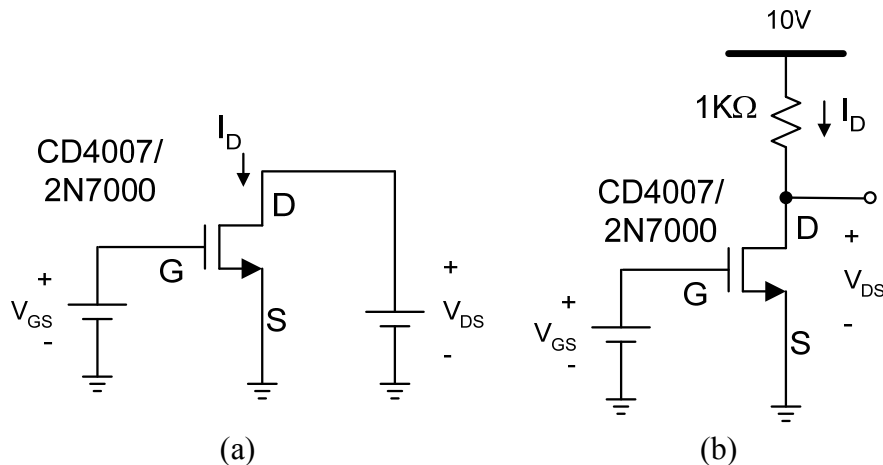
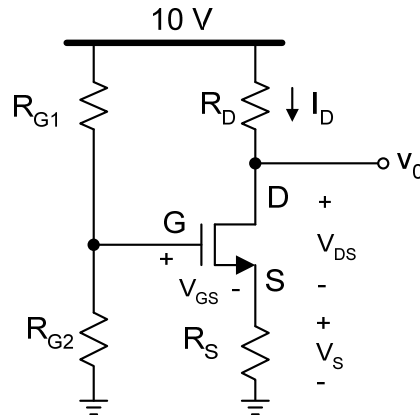

Fig. 2. (a) PSpice simulations setup (b) Schematic used for measuring the n-channel MOS transistor characteristics and small signal parameters.
Fig. 3. MOSFET based amplifier: circuit 2
A simple biasing scheme for the n-channel MOSFET is shown in Fig. 2; use  $V_{DD} = 10V$ . Find the important parameters for this transistor; e.g.  $\beta$ ,  $\lambda$  and  $V_T$ . A simple characterization gives you this information. For Spice simulations, your TA or instructor will provide you with the necessary model files and a guide on adding them to PSpice.
1. Set up your circuit in PSpice as shown in Fig. 2(a) using first the CD4007 MOS transistor.
Unfortunately, the biasing scheme of Fig. 2 is very sensitive to changes in the MOSFET characteristics because there is no means of stabilizing the biasing point. A better biasing scheme is shown in Fig. 3. In this circuit, an
- Construct the circuit shown in Fig. 3 in Pspice using the CD4007 MOSFET. Using the parameters found in the previous steps, find the resistors such that the transistor is biased at  $I_D=1\text{ mA}$  and  $V_{DS}=2\text{ V}$ , and  $R_D/R_S=10$ . The parallel combination of  $R_{G1}$  and  $R_{G2}$  should be greater than  $100\text{ k}\Omega$ . For your calculations you can ignore the  $\lambda$  effect. Simulate your results. Repeat for the 2N7000 MOSFET with  $I_D = 20\text{ mA}$ , while keeping all other requirements the same.
- Using the CD4007, connect the circuit of Fig. 2(b); the  $1\text{ k}\Omega$  resistor will limit  $I_D$  to  $10\text{ mA}$  and keep the  $V_{DS}$  voltage greater than or equal  $V_{GS}$  for a wide range. Sweep  $V_{GS}$  from zero up to a voltage such that  $I_D = 5\text{ mA}$ . Record the results for at least 20 different values with emphasis around the expected  $V_T$ . Plot the results in the  $I_D$ - $V_{GS}$  plane.
1. Using the CD4007, connect the circuit of Fig. 3, use the values obtained in the pre-lab. Measure the operating point ( $I_D$ ,  $V_S$  and  $V_D$ ), and compare these values with Spice results. Comment on any differences; how do you explain them? Try using a pot (10~25 K $\Omega$ ) between  $R_{G1}$  and  $R_{G2}$  with the middle terminal connected to the MOS gate. Explain why this works better than using two fixed values for  $R_{G1}$  and  $R_{G2}$ .